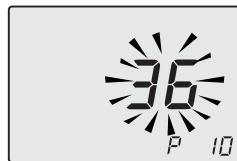

Fig. 8.24
- Scroll the various parameters using keys 18 or 19 until the letters **P10** are displayed on the LCD display, indicating that "parameter 10" (Fig. 8.24) has been activated.